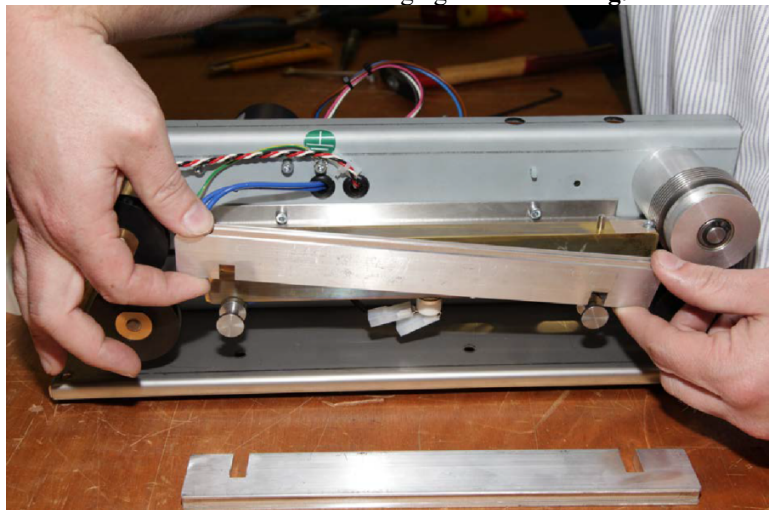

Figure 7
7. Release the lower aluminum feed through guidance bar. **Fig. 7**